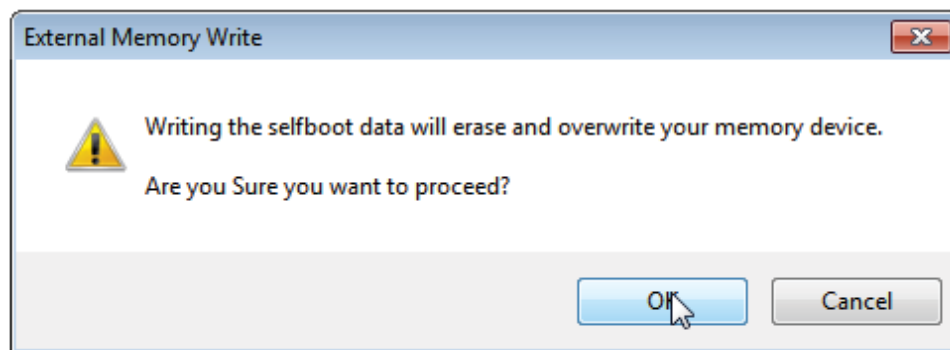

Figure 75. External Memory Erase and Overwrite Warning Window
8. A warning dialog box appears to remind the user that executing an external memory write erases and overwrites any data currently stored on the EEPROM (see Figure 75). Click **OK** to proceed.